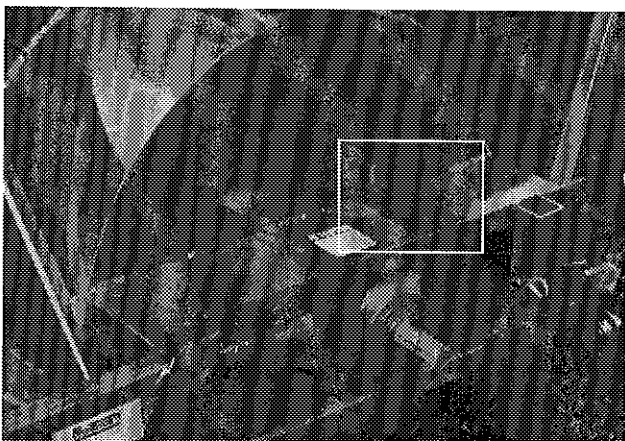

Figure 25
- 8) Check impeller adjustment. The tip of the blades should be approximately 1/8" to 3/16" from the discharge wall of the drum. If necessary, adjust with the take-up screws provided (Fig. 25).